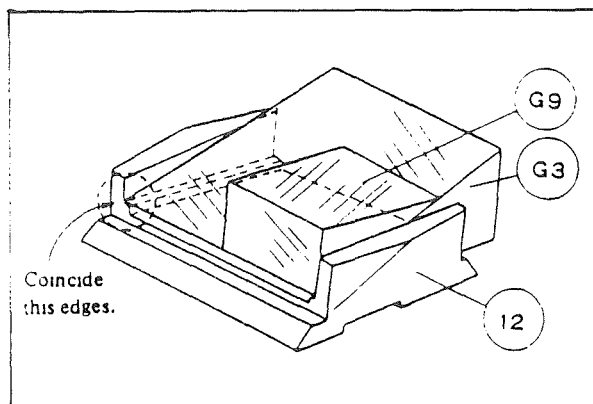

Fig. 27
- 6) Insert lenses (G1) and (G2) into (18), and fix them with retaining ring (19) (to be positioned as  thicker).
- 7) Fix prisms (G3) and (G9) onto dovetail prism holder (12) with plastic screw (11), temporarily in such a position that the bottom edges of prisms coincide with the ends of the walls on both sides, as shown in Fig. 27.